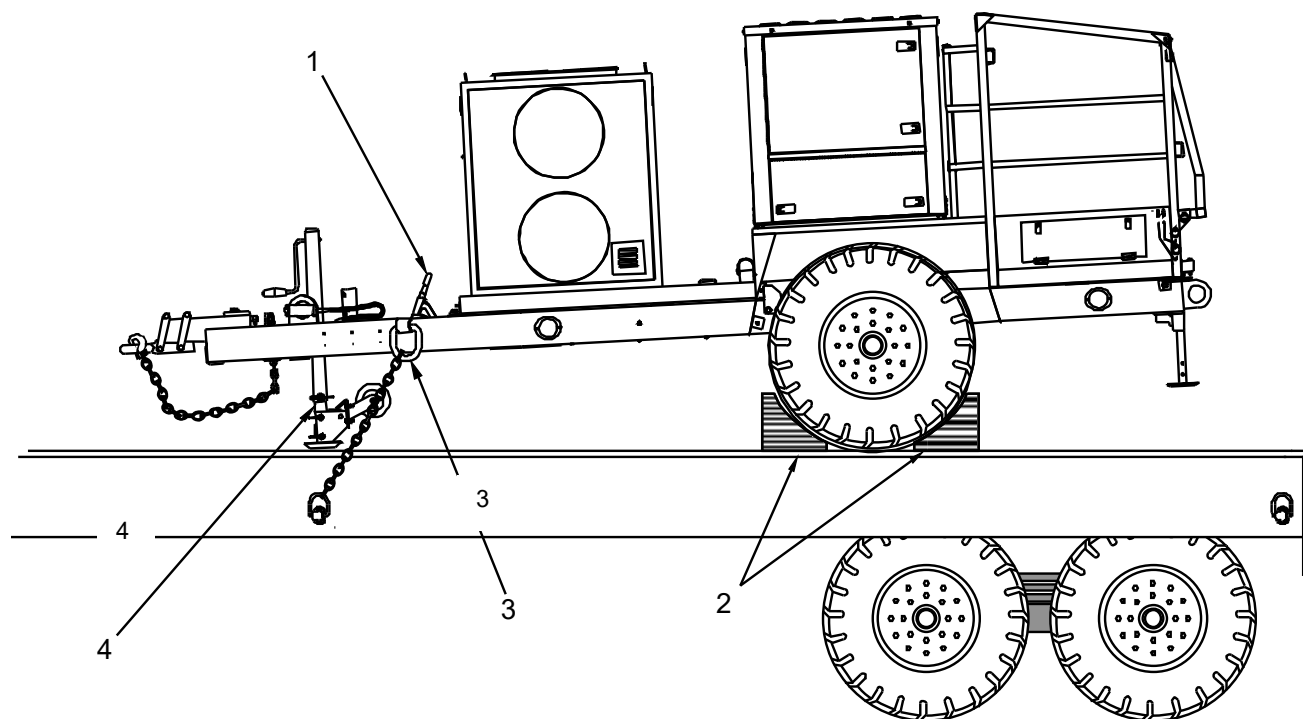

Figure 11. Trailer Properly Chocked and Positioned on Transport Trailer Deck.
1. Chock (Figure 11, Item 2) wheels once the trailer is positioned upon the transport vehicle.
2. Use skid plate (not wheel) to support tongue jack (Figure 11, Item 4) during shipping. The skid plate resting on the deck surface will support the tongue jack. The trailer tongue jack must be fully retracted.
3. Apply two handbrakes (Figure 11, Item 1).
4. Secure trailer to transport deck using the two tie-down rings (Figure 11, Item 3).